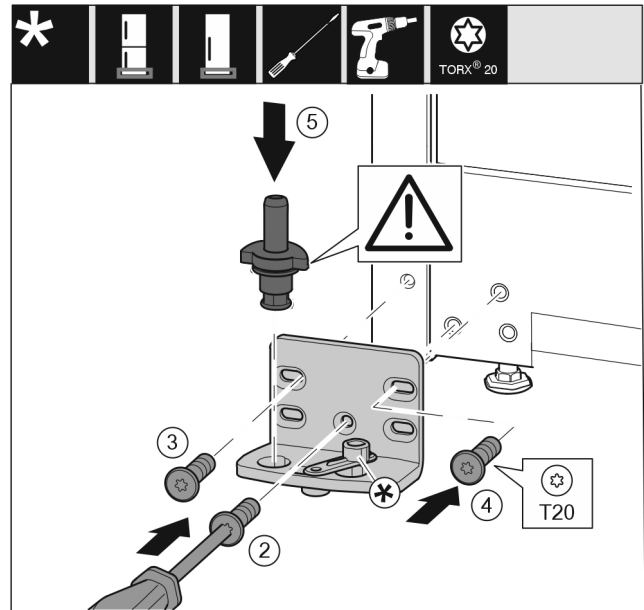

Fig. 36
- Attach the swap bearing block onto the other side and screw it on using a screwdriver. Start with the screw Fig. 36 (2) at the bottom center.
- Tighten screw Fig. 36 (3) and screw Fig. 36 (4).
- Insert the bearing pin Fig. 36 (5) completely. In the process, make sure that the latching cam shows towards the rear.
- Attach the swap bearing block onto the other side and screw it on using a screwdriver. Start with the screw (2) at the bottom center.
- Tighten screw (3) and screw (4).
- Turn the closing damper connection (5) by 180°. On the other side of the swap bearing block, screw it on with the screwdriver.
- Insert the bearing pin (6) completely. In the process, make sure that the latching cam shows towards the rear.